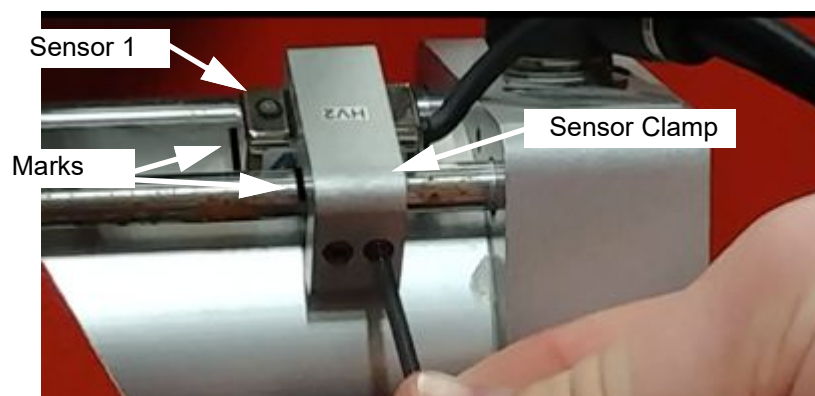

FIG. 4-3
- b. Loosen (do not remove) the sensor clamp to remove the sensor. (See Fig. 4-3.)